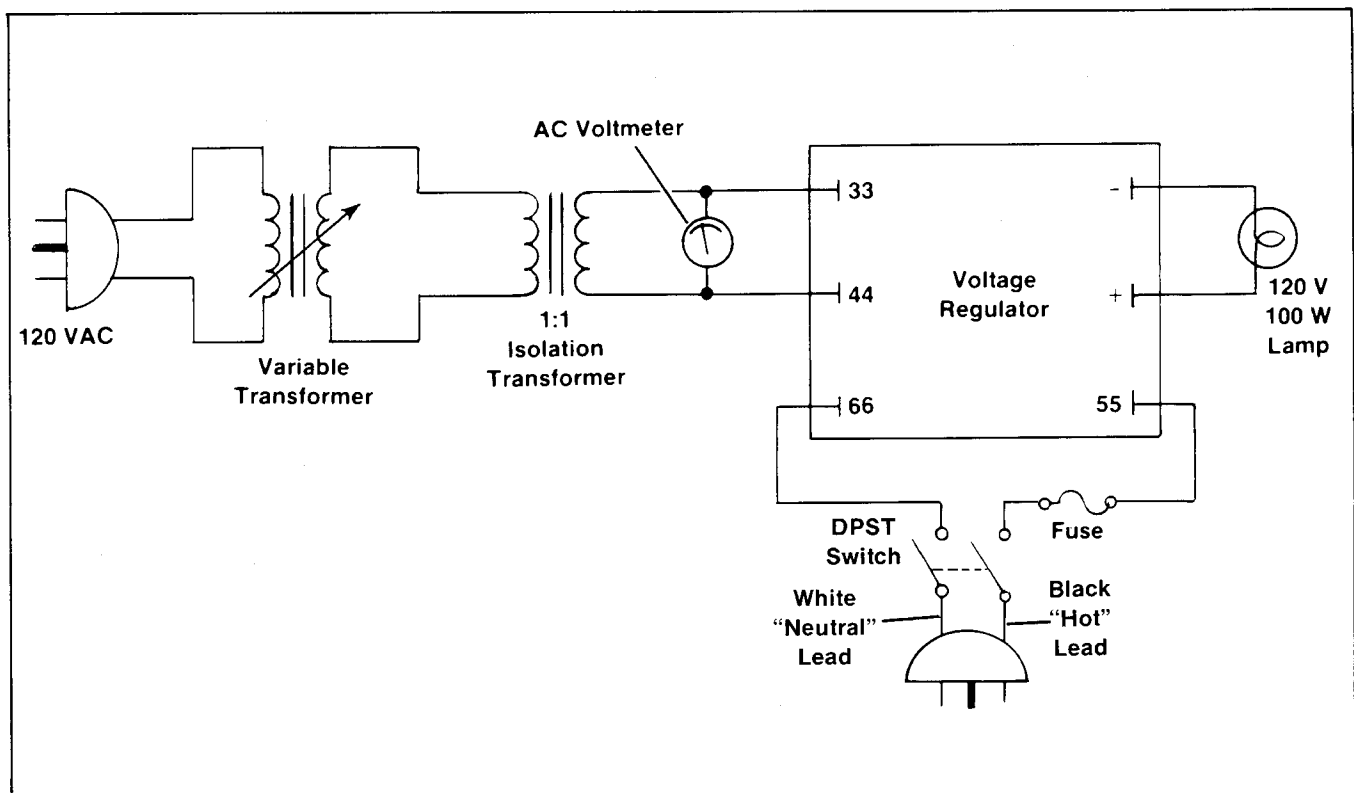

Figure 7-1. Voltage Regulator Test
1. Connect components as shown in Figure 7-1.